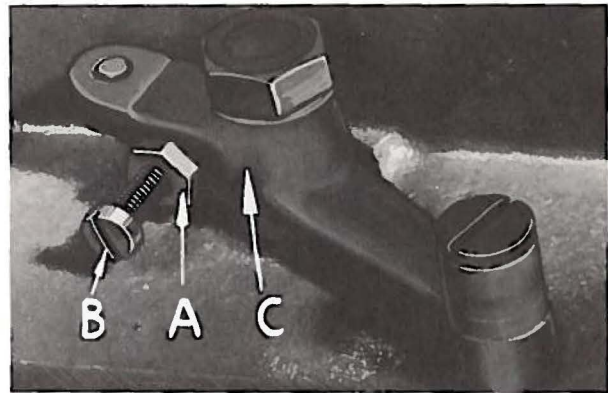
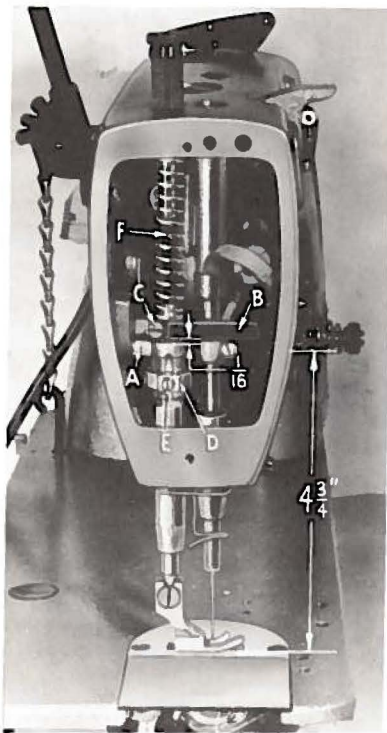

Fig. 16
Fig. 17
The presser bar connection (A, Fig. 17) should be set so that it is about $\frac{1}{16}$ inch below the presser bar guide (B). This is accomplished by tipping the machine back against the rest pin, loosening the lock nut (A, Fig. 16), and relocating the stop screw (B) on the lifter lever bell crank (C). By turning the stop screw to the right or left, the proper setting of the presser bar connection is accomplished. Tighten the lock nut (A) to lock the stop screw in place.
When locating the presser bar guide (B, Fig. 17), the presser foot must rest directly against the throat plate with the feed dog in its lowest position. The guide is set properly when there is a 4 3/4 inch space between the thread take-up wire and the top of the throat plate (Fig. 17)
The tension release should be set so that it will not release when sewing over seams or when the presser foot is raised for back tacking. The adjustment of the tension release cam (D, Fig. 17) and the in and out position of the tension assembly are required for proper operation.
The tension release cam (D, Fig. 17) should now be positioned by loosening set screw (E, Fig. 17) and then raising or lowering the cam to suit the sewing conditions, the average release point being between $\frac{1}{4}$ to $\frac{5}{16}$ inch of presser foot lift above the throat plate. Tighten tension release cam set screw securely.